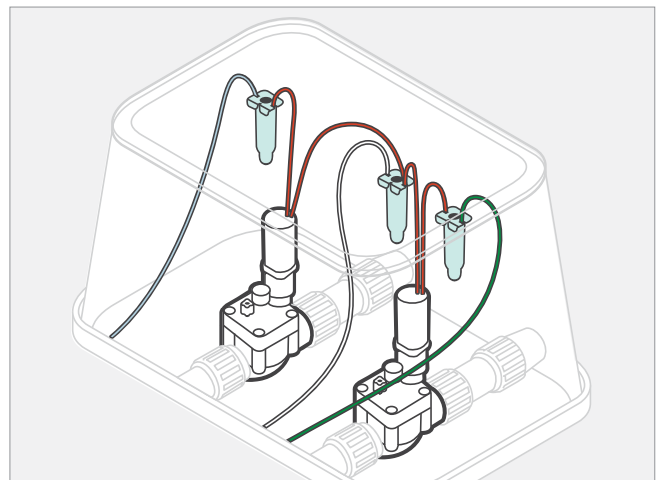

Figure 1
4. Connect the wires to the valves with waterproof connectors (Figure 1). You will need one wire for each valve, plus one common wire that will be connected to one of the wires on all of the valves.